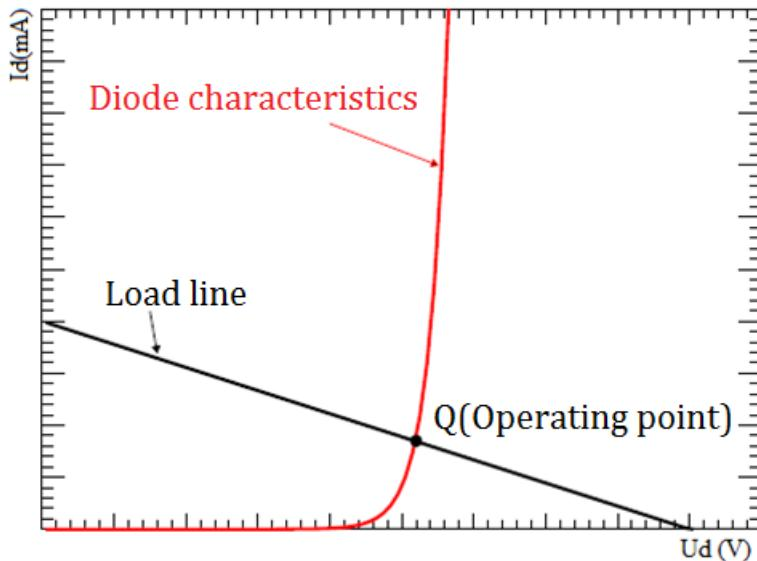
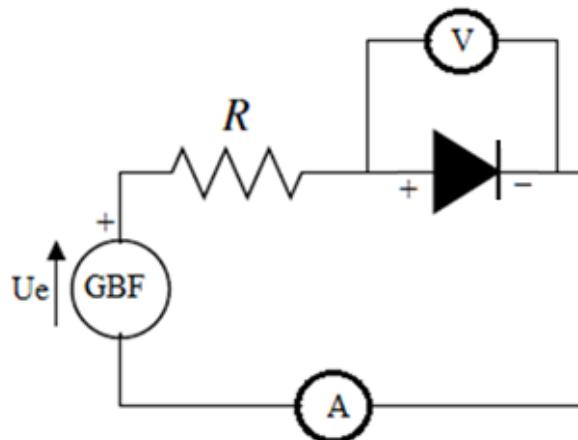

Figure 3: Representation of the load line and the operating point of a forward-biased diode.
Figure 4: Electrical circuit of a forward-biased diode.
The load line defines the operating point of a component within a given circuit. To determine the load line (Figure 3) of the electrical circuit shown in the diagram of Figure 4, the following steps are performed:
3. The operating point of the diode corresponds to the point of intersection between the characteristic curve $I_d=f(U_d)$ and the load line of the circuit (see Figure 3).
- Assemble the electrical circuit as shown in Figure 4, first placing the Si-1N4007 diode and then the Ge-AA118 diode, both in forward bias.